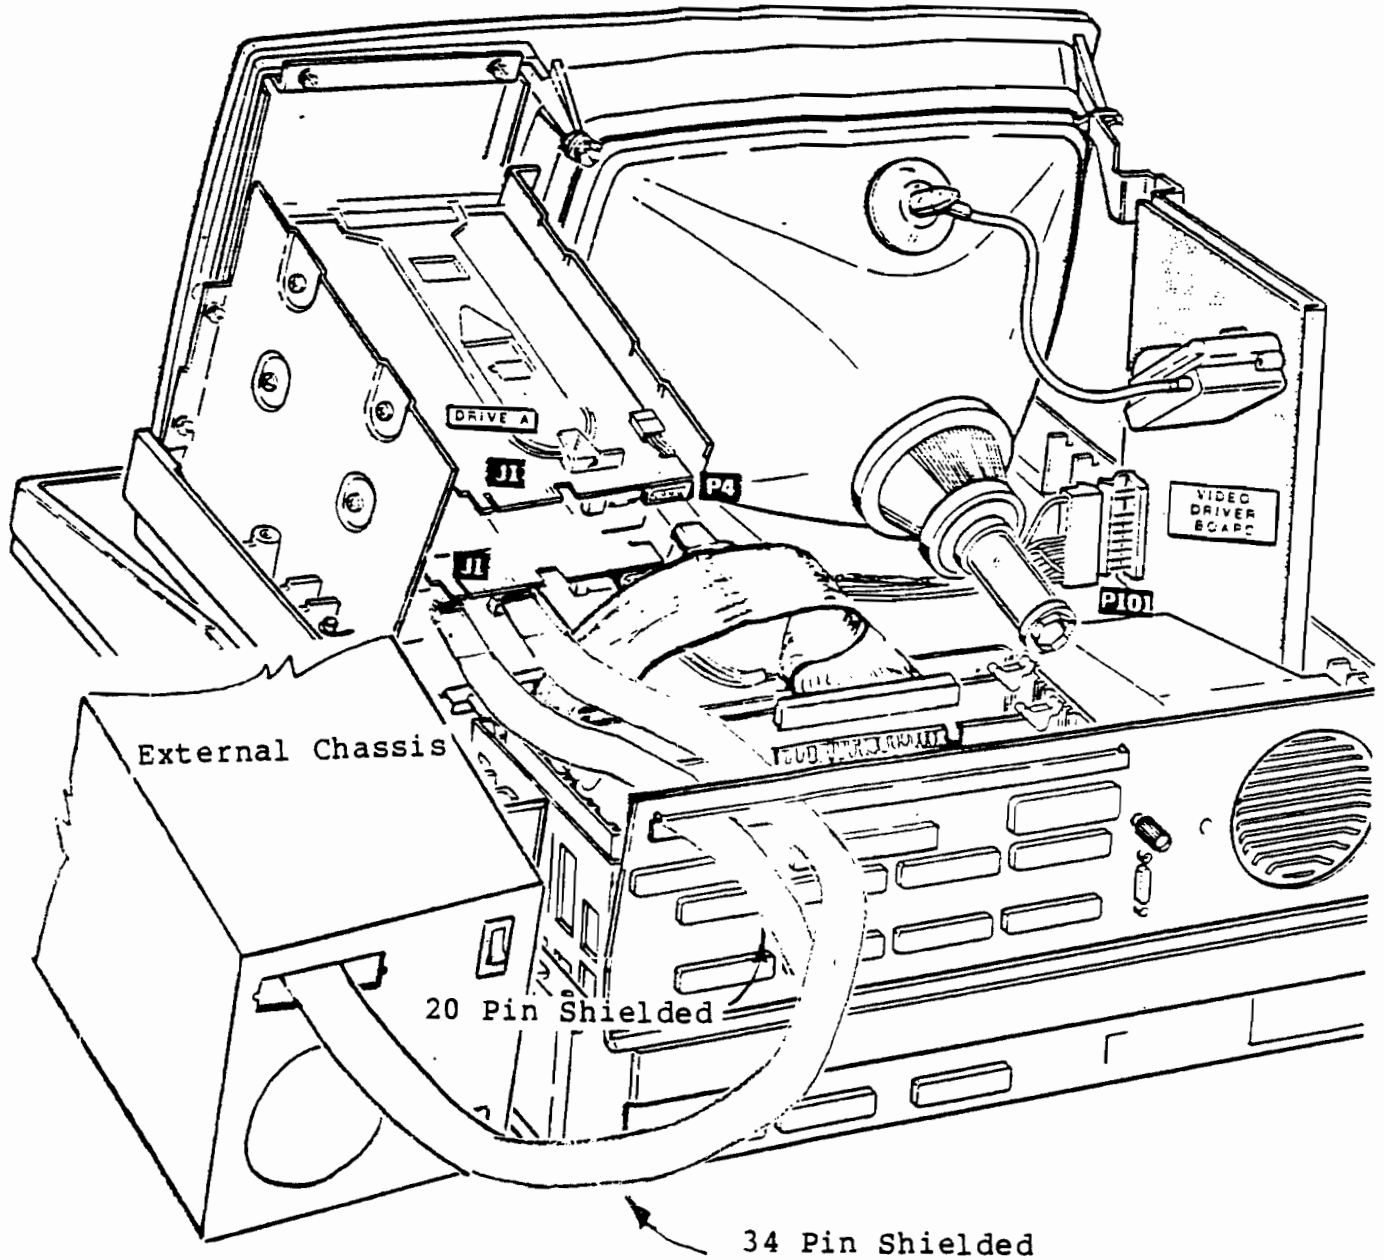

Figure 22
13. Locate the free end of the 64 pin edge card cable attached to the WD controller. Flip the cable over and align pin 1 (striped edge) over B1 on fingerboard P2 of the EasyWIN interface board. Press down on the connector firmly until seated. See figure 22.